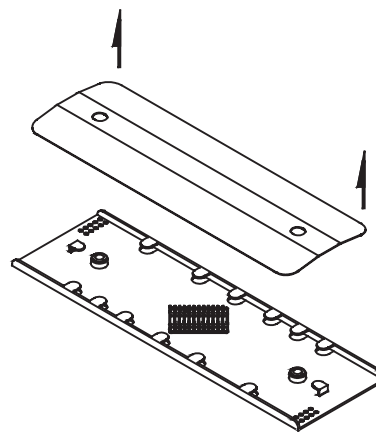

FIGURE 21 - REMOVE SPLICE TRAY COVER
- 12.02** Remove the cover from a splice tray by placing your thumb on the snap post and pulling up on the end of the tray cover (Figure 21). Repeat for the other end of the tray cover.